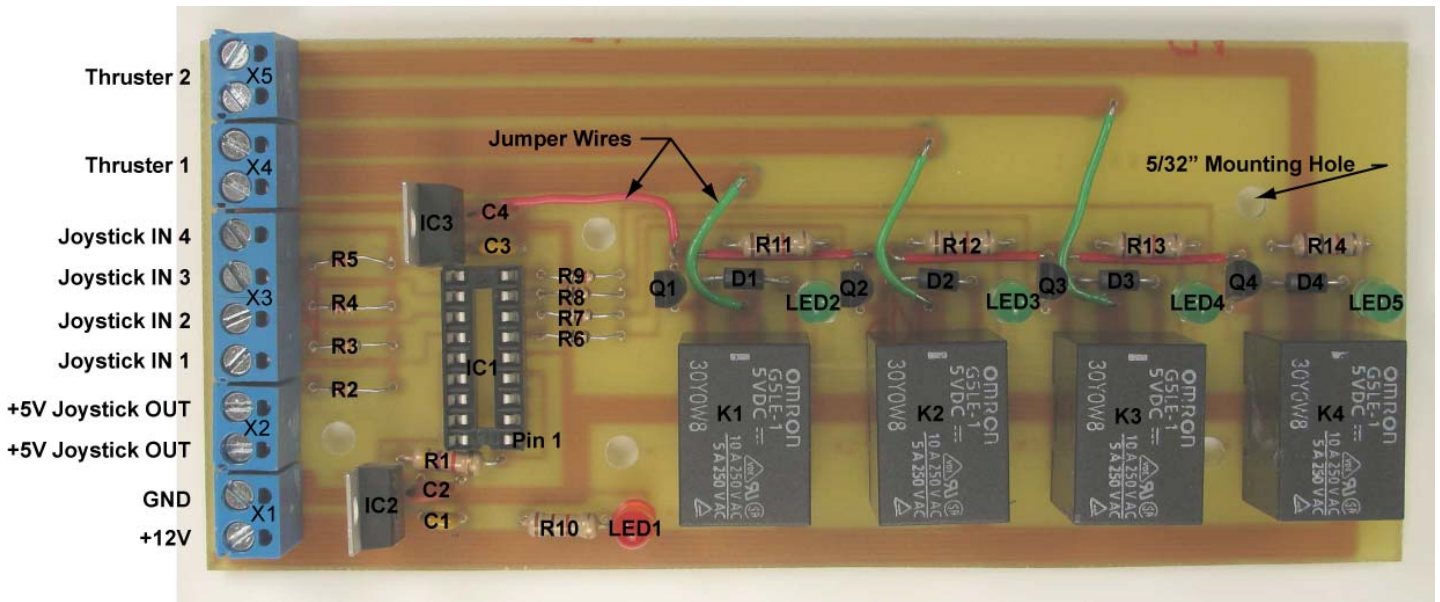

Figure 12: Component Layout on the Component Side of the PCB
- Layout the components in their correct placement on the component side of the board and solder them to the traces on the solder side of the board. Refer to Figure 12.
- Note: X1 – X5 should be fitted together on your board. The PCB artwork was revised to accommodate this after the photo in Figure 12 was taken.